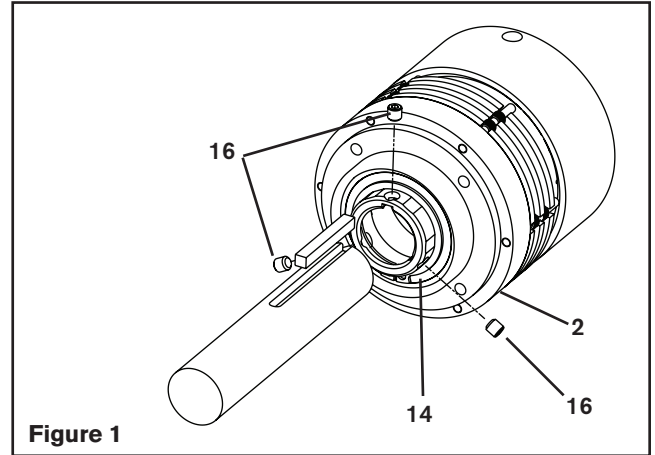

Figure 1
3. Slide the LSCB onto the machine shaft (See Figure 1).
4. Secure the clutch/brake to the machine shaft using the three Set Screws (Item 16) (See Figure 1).
1. Remove the three Set Screws (Item 16) from the Hub (Item 1) (Figure 1).